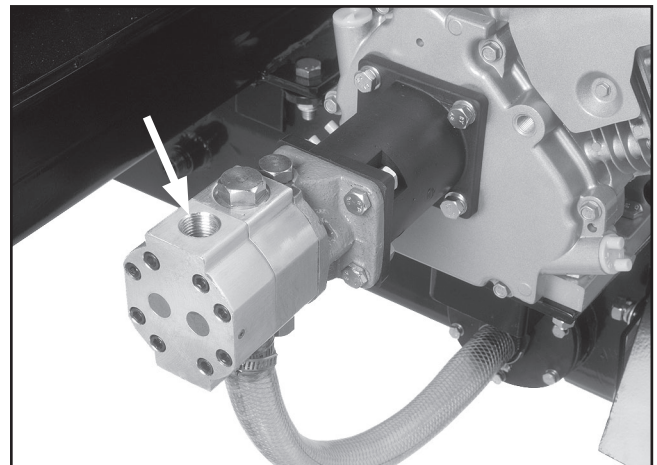

Figure 15. Pump pressure port.
20. Remove the plastic cap from the pump pressure port and, add a couple of tablespoons of hydraulic oil into the pressure port (**Figure 15**).
22. Loosen the hose clamp, install the pump suction hose onto the pump suction port (**Figure 15**), and tighten the hose clamp.